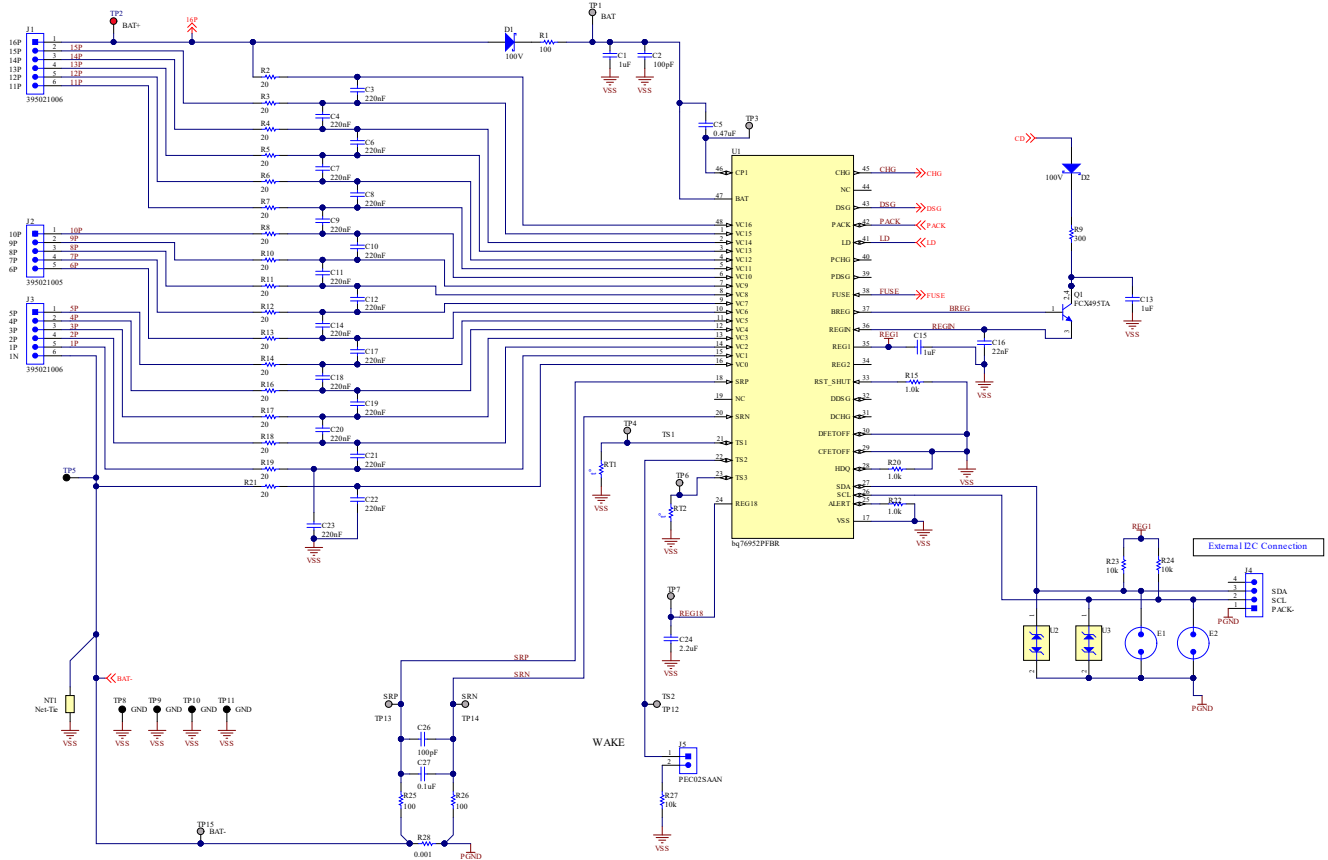

図 8-2. BQ76972 16-Series Cell Schematic Diagram—Monitor
- Power Dissipation, which can be a factor of the RDS(ON) rating of the FET, the FET package, and the PCB design.
- The overdrive level of the BQ76972 device charge pump should be selected based on RDS(ON) requirements for the protection FETs and their voltage handling requirements. If the FETs are selected with a maximum gate-to-source voltage of 15 V, then the 11 V overdrive mode within the BQ76972 device can be used. If the FETs are not specified to withstand this level, or there is a concern over gate leakage current on the FETs, the lower overdrive level of 5.5 V can be selected.
- A diode can optionally be included in the collector circuit of the BJT, in order to avoid reverse current flow from BREG through the base-collector junction of the BJT to PACK+ during a pack short circuit event. This diode can be seen in 図 8-2 at D2.